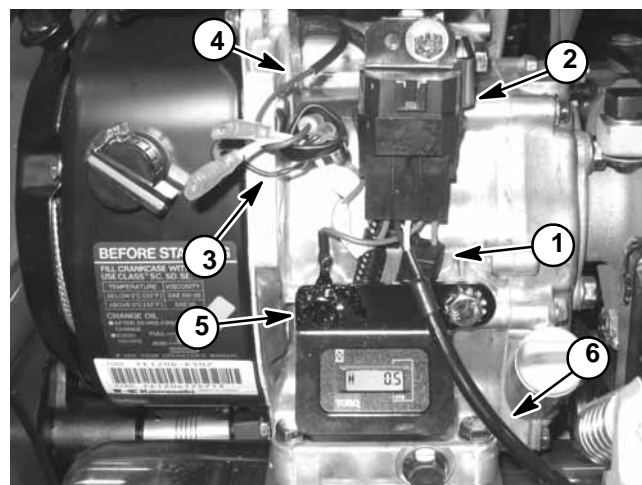

Figure 5
1. Check that there is a good ground between the interlock module (green wire) and the engine (Fig. 5). Check all other electrical connections and the interlock module for damage. Repair or replace any damaged wiring or components.
A. Disconnect red wire (male connector) where it connects to the black wire leading to the ignition coil (Fig 5).